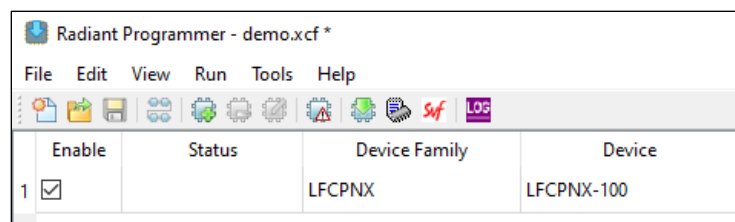

Figure 6.16. Device Status
- Make sure the Nexus device is detected in the Programmer, as shown in Figure 6.16.